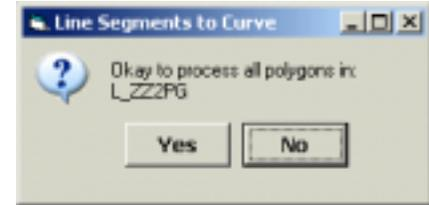

Figure 4
- 4 If the layer contains selected features, proceed to the next step, otherwise, **click** at the **Yes** or **No** button, see Figure 4, to indicate whether or not all features in the active layer are to be processed. If the No button is selected, the command is aborted.